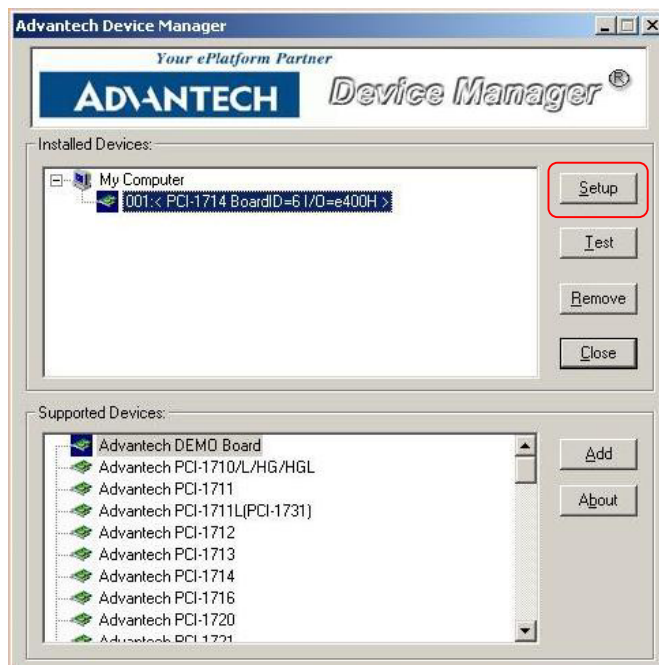
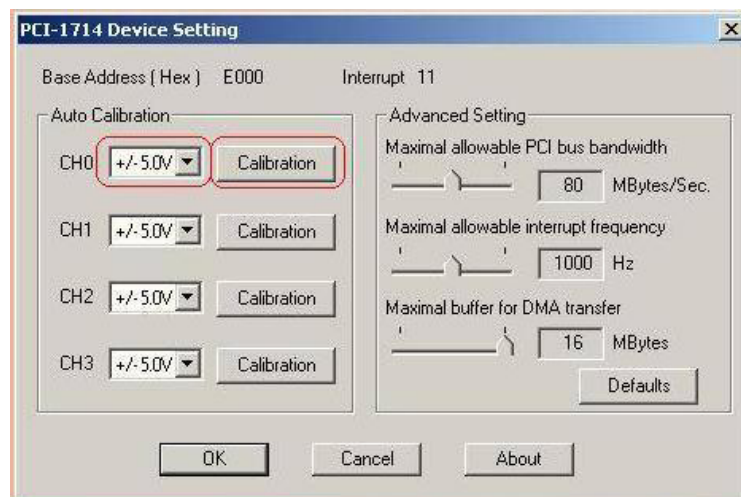

Fig.5-1 Click the **Setup** button to launch the *Device Setting*
Fig.5-2 Click the Calibration button to launch the calibration
Step 1: Click the **Setup** button on the *Advantech Device Manager* window (Fig.5-1) to launch the *PCI-1714 Device Setting* window (Fig.5-2).